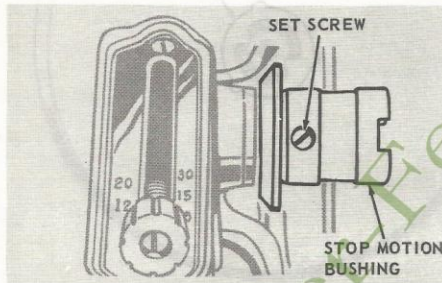

Fig. 48. Removing Stop Motion Bushing
4. Loosen and remove set screw, Fig. 48, and remove stop motion bushing.